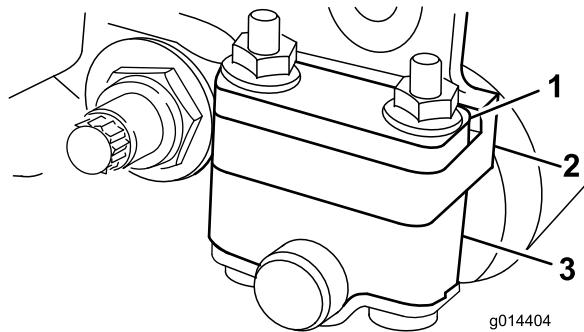
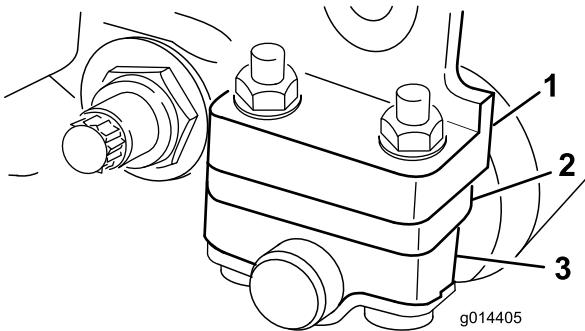

Figure 11
Figure 12
1. Adjust the rear roller brackets (Figure 11 or Figure 12) to the low or high position depending on the desired height of cut range. Position the spacer above the sideplate mounting flange (factory setting) when height of cut settings range from 1/16 to 1/4 inch (Figure 11).
Position the spacer below the sideplate mounting flange when height of cut settings range from 1/8 to 1 inch (Figure 12).